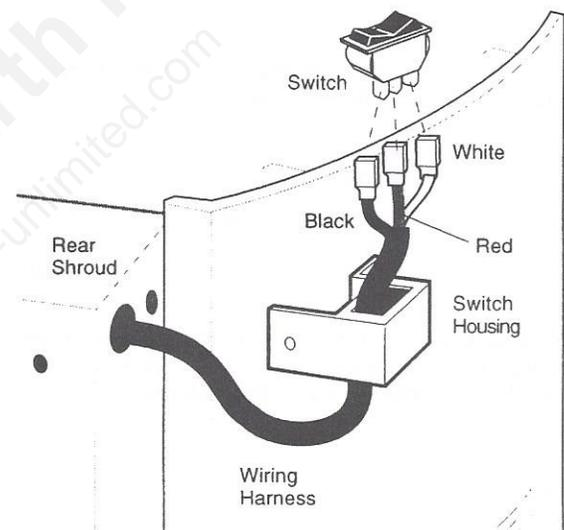

Figure 11. Attach the wire harness terminals to the switch.
1. Pass the end of the Switch Wiring Harness with three female connectors through the larger hole in the upper left side of the Rear Shroud. See Fig. 11.
2. **Attach the three female connectors** to the terminals on the On/Off Switch as in Fig. 11.